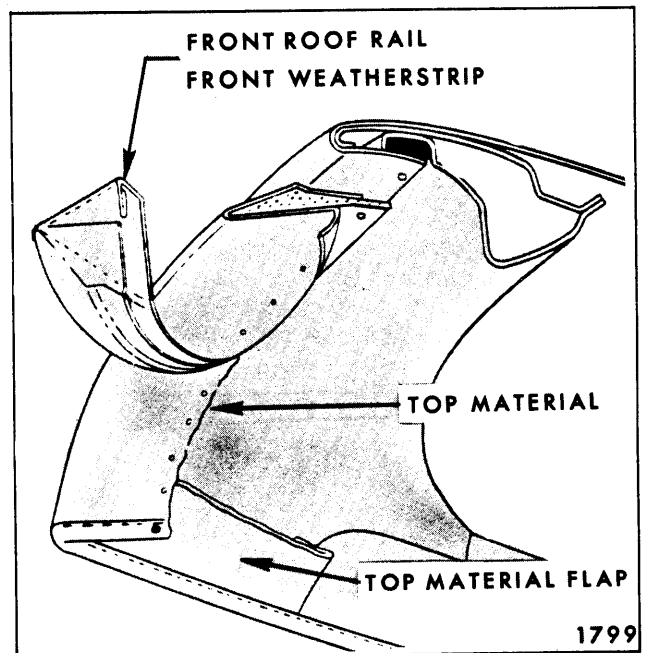

Fig. 13-23—Top Cover at Front Roof Rail
20. Lower top and complete tacking of top cover to front roof rail. Trim off excess material (Fig. 13-23).